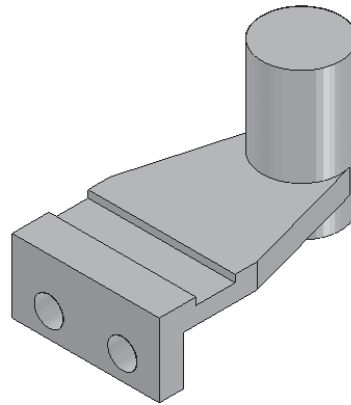

Figure 5-63 Model after creating the cutout
- d. Create two holes on the left face of the base feature using the **Cutout** tool, as shown in Figure 5-63.
5. Move the cursor to the right of the model and left click to specify the direction of the cutout feature. The model, after creating the cutout feature, is shown in Figure 5-63.